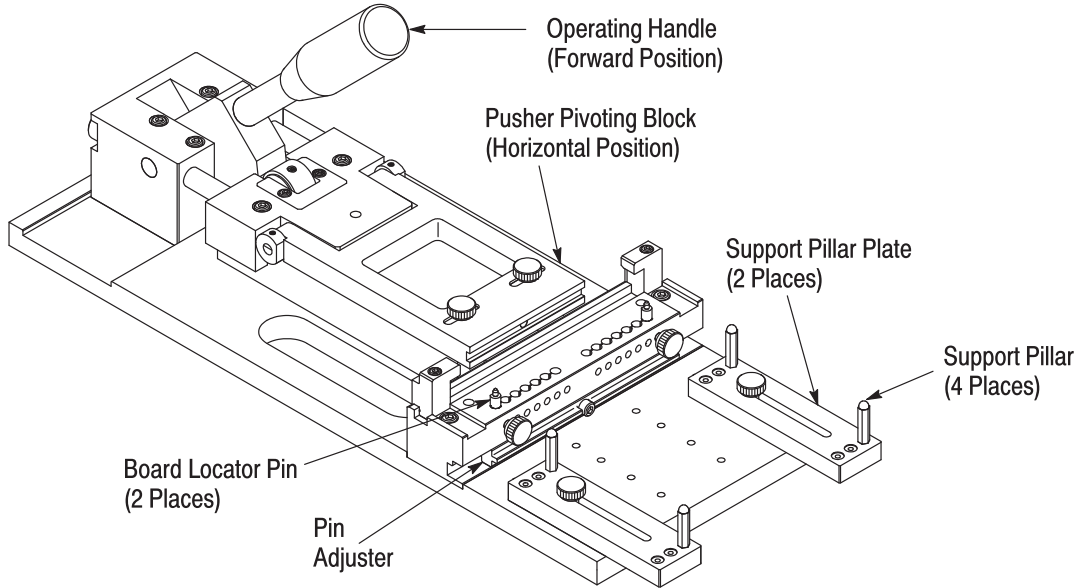

Figure 1
**2. DESCRIPTION** (Figure 1)
3. Lower the pusher pivoting block to its horizontal position (shown in Figure 1).
4. Carefully hold the pc board in place on the locating pins and support pillars, and slowly pull the operating handle to its forward position (shown in Figure 1). Check to make sure that the connector is properly aligned to the edge of the pc board. If it is not aligned, refer to Paragraph 3.4.